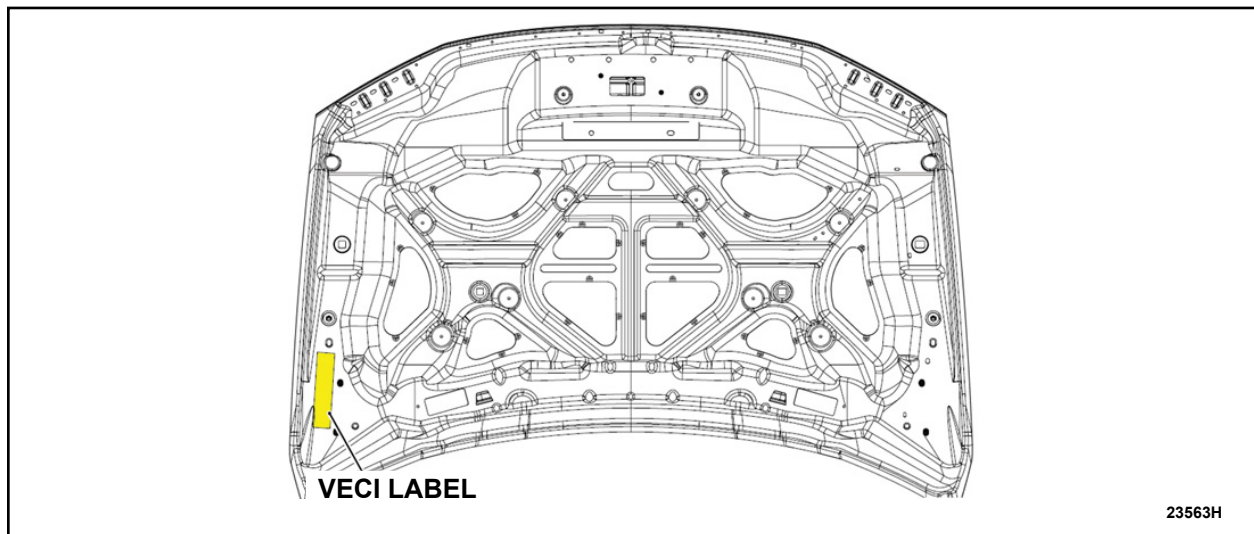

FIGURE 1
3. Locate the existing Emission Control Information label on the inside of the hood. See Figure 1.